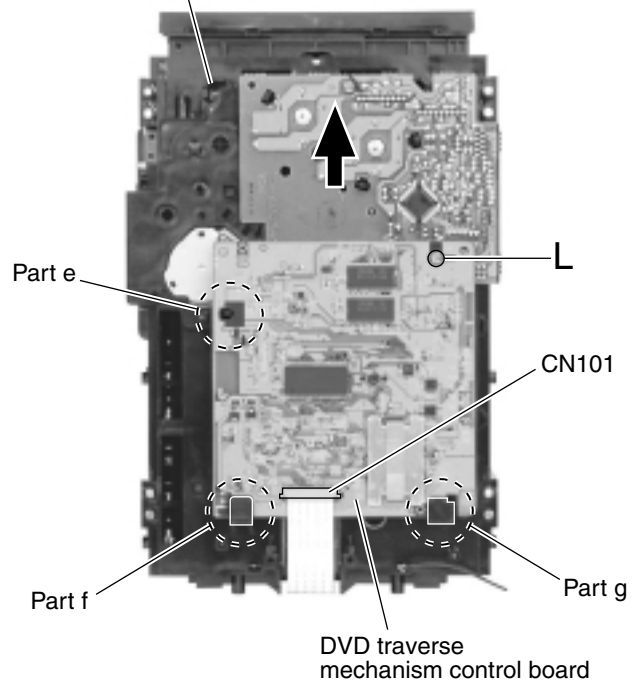

Fig.17
■ Removing the traverse mechanism control board (See Fig.17)